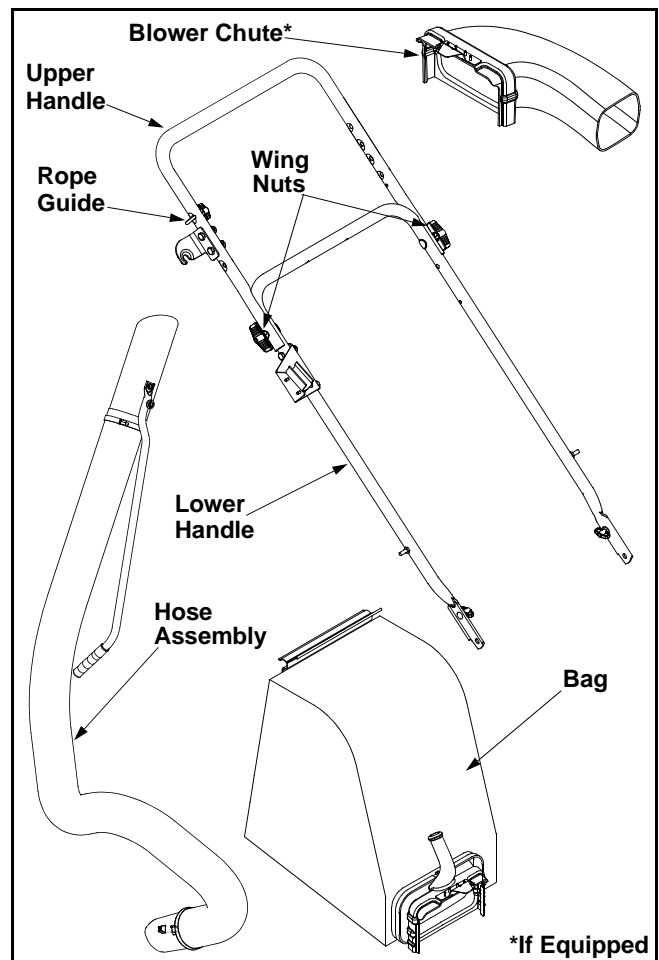

Figure 1
### Loose Parts In Carton (See Figure 1)
- Secure the two handles by tightening the wing nuts (carriage bolts must be seated properly into the handle). See Figure 1.